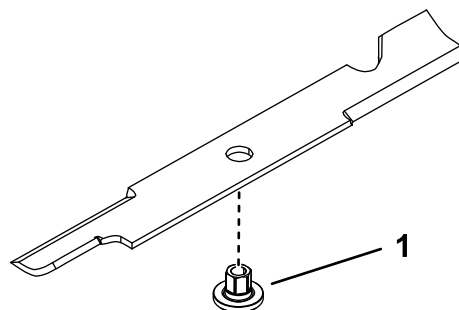

Figure 77
1. Install the bushing through the blade with the bushing flange on the bottom (grass) side of the blade (Figure 77).